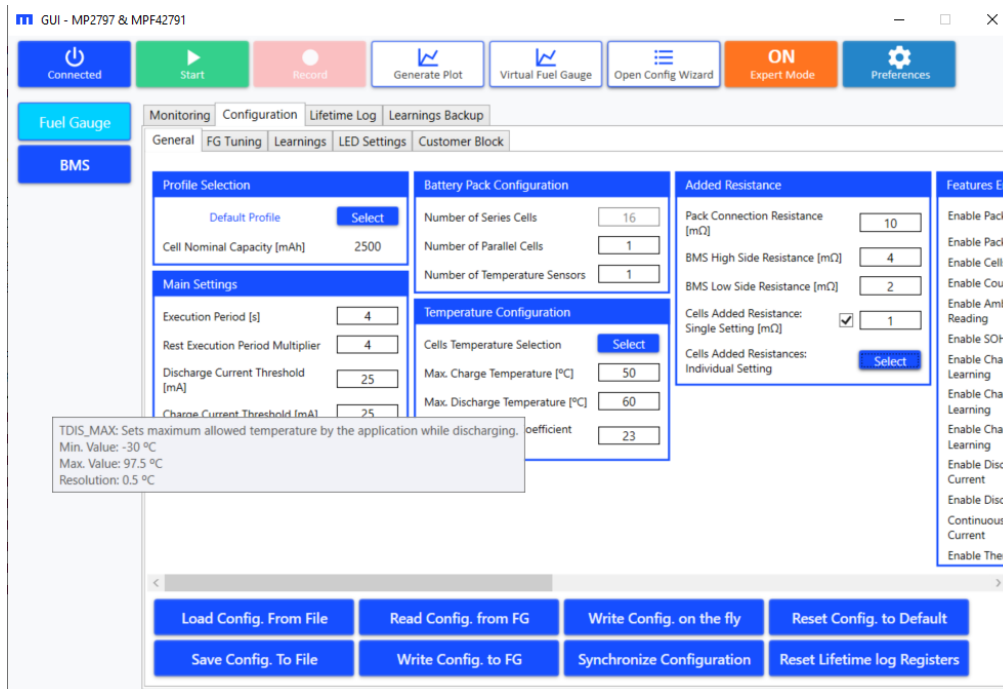

Figure 42: Fuel Gauge Configuration (Register Details)
- d. Place the cursor on top of a register name to display that register’s information (see Figure 42). For more detailed information on the registers, refer to the relevant MPF4279x datasheet.
2. Select the Configuration tab (see Figure 42 on page 32).
The new generation offers a wide variety of learning configurations that can enhance performance. Hover the cursor over a parameter to read about that parameter’s information (see Figure 42 on page 32).